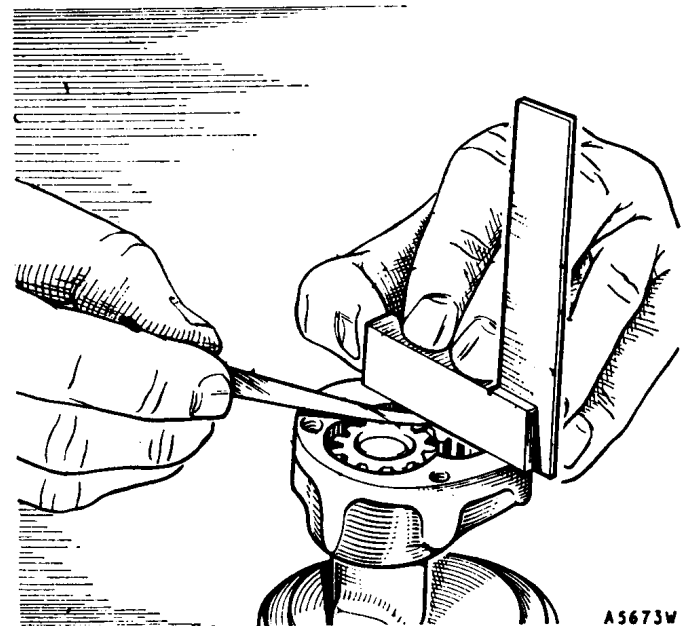

Fig. A.7
- (2) Check the end-float on the gears, placing a straight-edge across the face of the pump body and measuring the clearances with feelers, as shown in the illustration (Fig. A.7). This should not be more than .003 in. (.08 mm.).